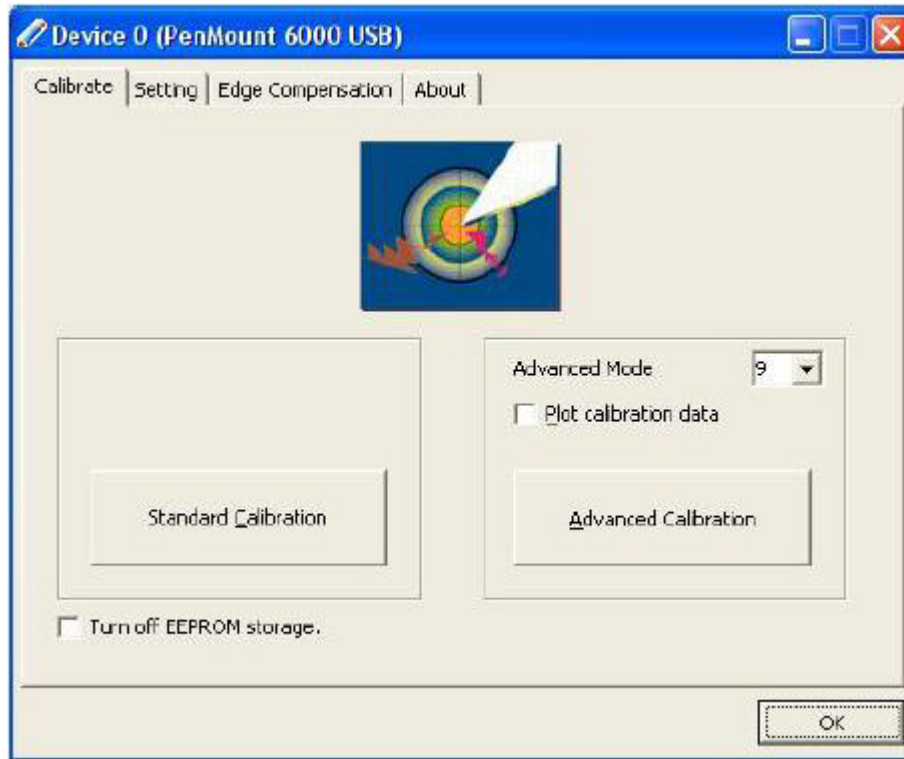

Figure 6-10: Calibration Initiation Screen
Step 8: The calibration initiation screen in **Figure 6-10** appears.
Step 9: Select the Standard Calibration button as shown in **Figure 6-10**.